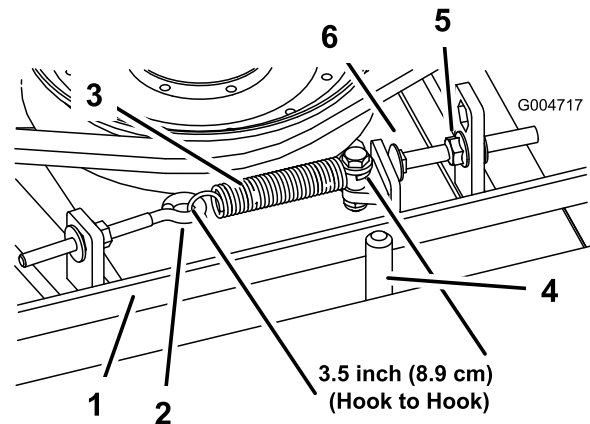

Figure 70
When properly tensioned, the extension spring (hook to hook) measurement should be approximately 3.50 \pm .25 inch (inside). Once the correct spring tension is attained, adjust the stop bolt (carriage bolt) until there is approximately .125 \pm .060/-0.000 inch clearance between the head of the bolt and the idler arm (Figure 70).
Note: Make sure the belt is positioned on the spring side of the belt guide (Figure 70).
2. Loosen the eye bolt allowing the removal of the extension spring (Figure 70).
3. Loosen the flange nut securing the stop bolt to the mounting tab. Back off the nut enough to allow the idler arm to pass by the stop bolt (Figure 70). Move the idler pulley away from the belt to release belt tension.
8. Reconnect the extension spring (Figure 70) to the eye bolt and tension the belt as follows: